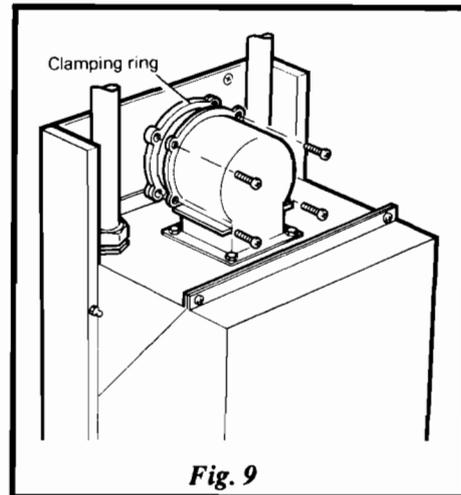

Fig. 9
14.7 Connect the flue to the boiler - see Fig. 9 (rear flue).
1. Fit the two halves of the clamping ring over the air tube as shown in Fig. 9. Ensure that the flat side is against the wall mounting plate, and the recessed side against the flared part of the air tube.